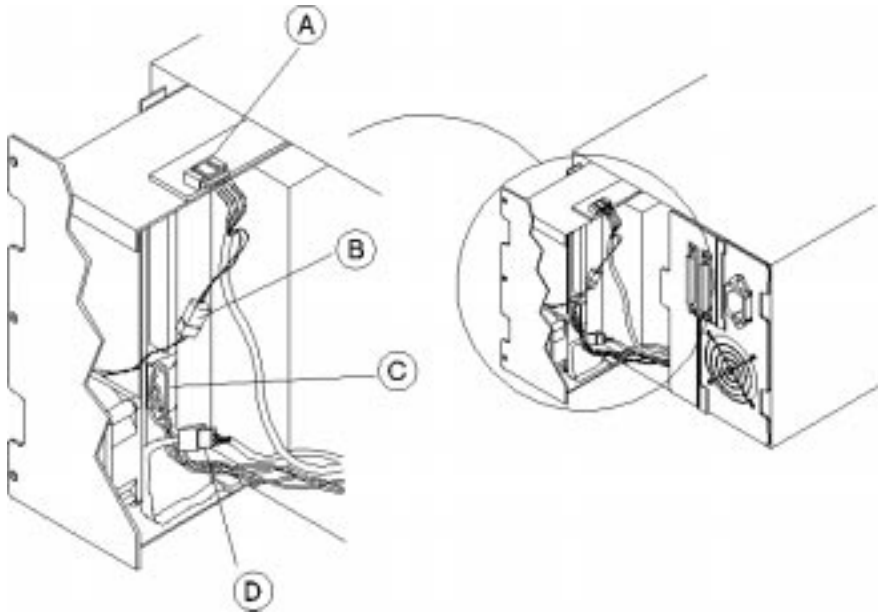

FIGURE 4-4 DLT Drive Cables
5. **Disconnect the following four cable connectors, which are labeled in FIGURE 4-4.**
1. **Partially slide in the new DLT drive. Reconnect the four cable connectors. See FIGURE 4-4 on page 4-5.**